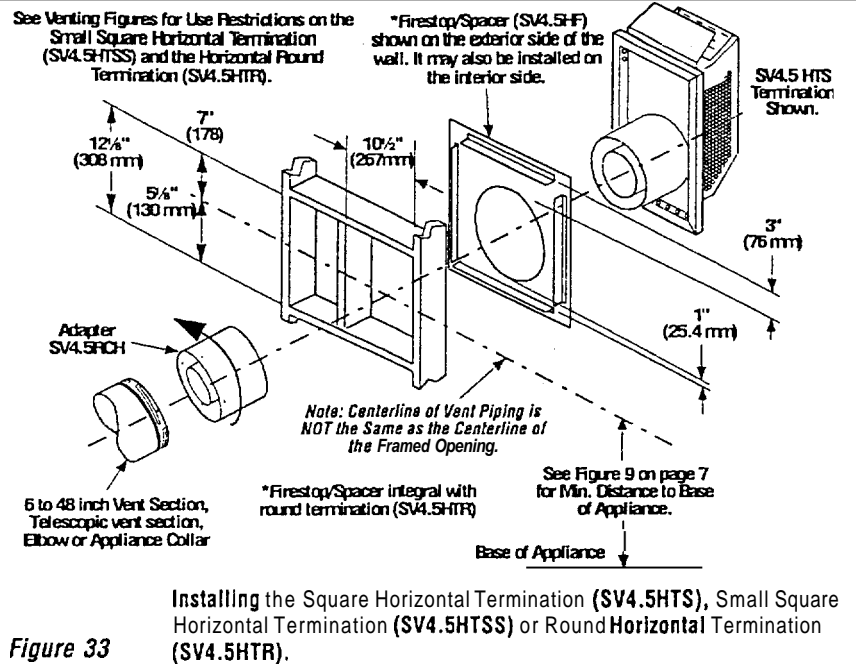

Figure 33
If the terminus of the last section is not within this distance, use the telescopic vent section SV4.5LA, as the last vent section. For wall thicknesses greater than that shown in Figure 33, refer to table 4 on page 77. This table lists the additional venting components needed (in addition to the termination and adapter) for a particular range of wall thicknesses.
**K. Attach termination adapter** - Attach the adapter (adapter - SV4.5RCH - provided with the termination) to the vent section or telescoping vent section, elbow or appliance collar as shown in Figure 33 in the same manner as any SV4.5 vent component (refer to Step E).
**L. Install Firestop/Spacer** at exterior wall - When using the square termination, install SV4.5HF (Secure Vent), SF4.5HF (Secure Flex) Firestop/Spacer over the opening at the exterior side of the framing, long side up, with the 3 inch spacer clearance at the top as shown in Figure 33, and nail into place.